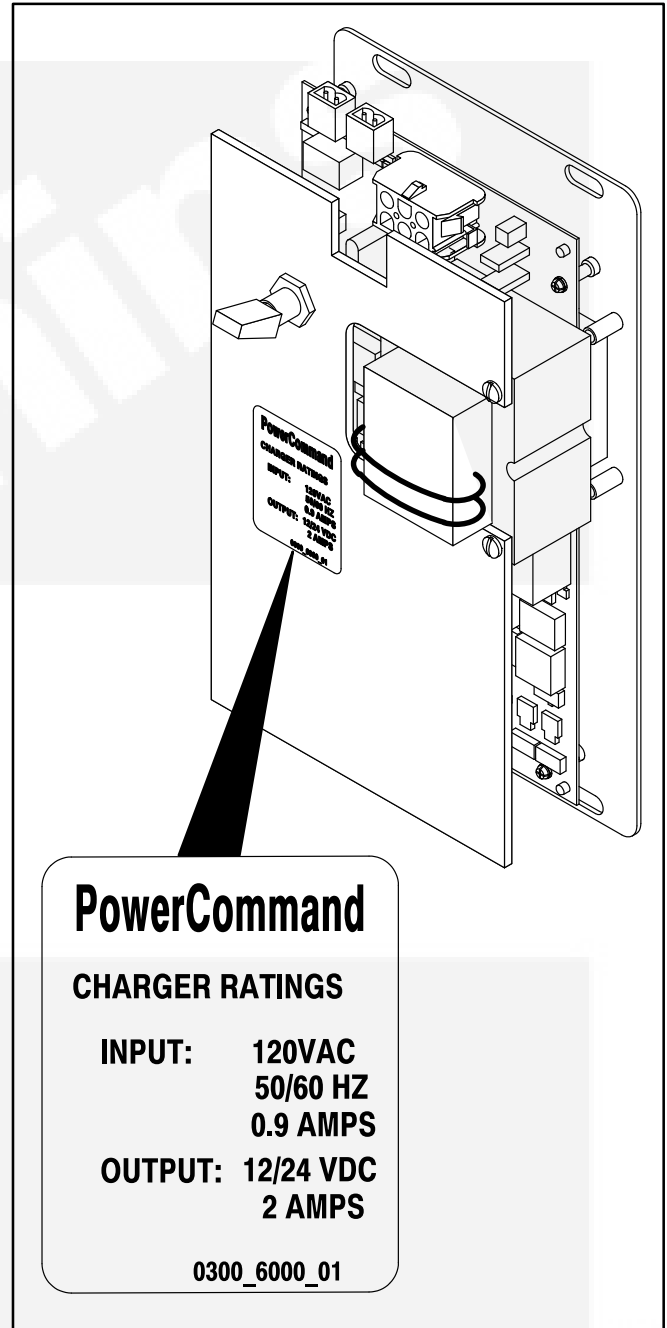

FIGURE 1. CHARGER RATINGS LABEL
To identify your model, refer to the charger rating label on the front of the battery charger (see Figure 1). This label lists electrical characteristics and the charger part number.
- *Part Number (see Figure 1)*